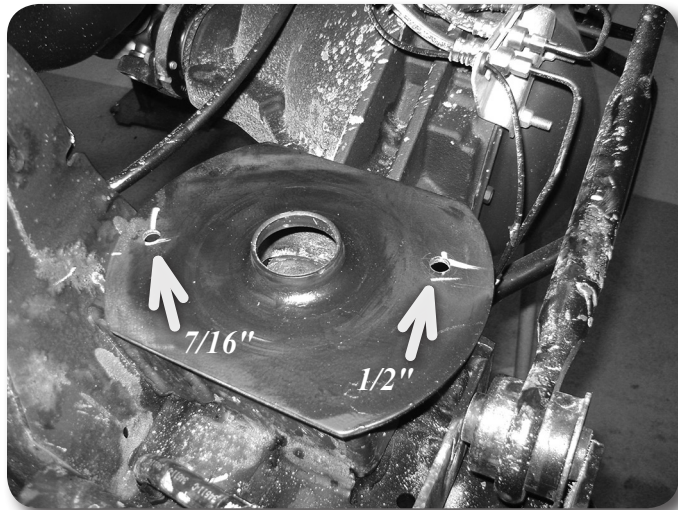

Figure 4
9. Locate the holes in the rear lower coil mount. Clearance the rear most hole on the driver's side to 1/2" to accept larger hardware, the remaining 3 holes will accept 3/8" hardware. Fig. 4